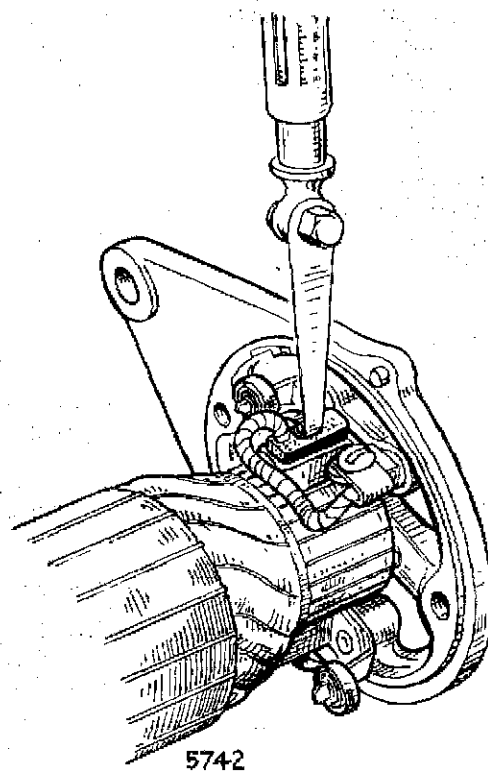

Fig. 5. Testing brush spring tension
4. Test the brush spring pressures by means of a spring scale held radially to the commutator (See Fig. 5).